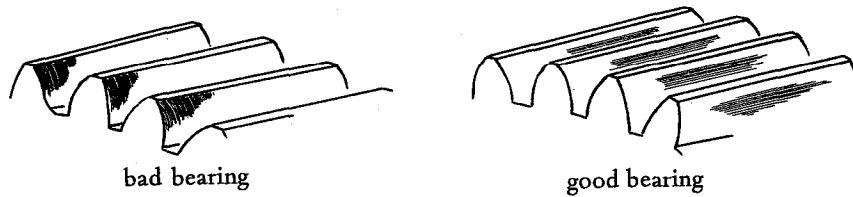

Fig. 6
- (2) In installing the gear, adjust its position so as to eliminate an end tooth bearing by examining the tooth bearing with minium. (Fig. 6)